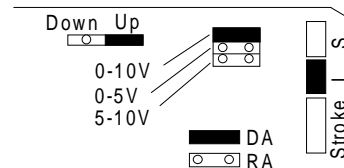

Figure 16: Jumpers
1. Set the input selection jumpers to match the desired operating range. (See Figure 16.)